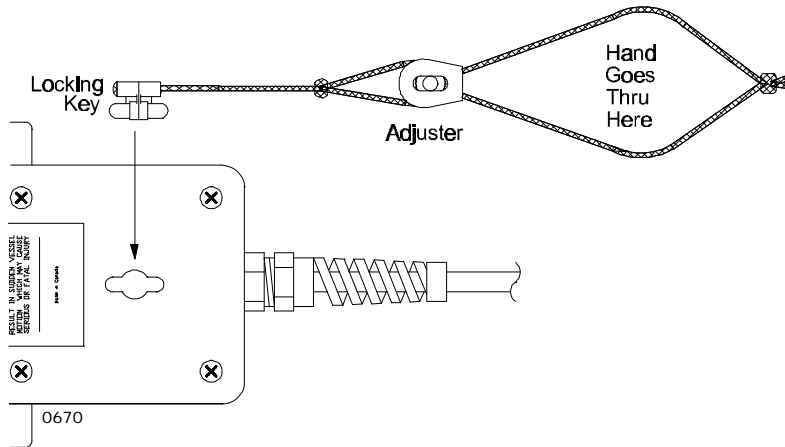

Figure 21 – Safety Lanyard
- If the Hand Held Remote is operated outside of the holding bracket, always wear the safety lanyard (see Figure 21). In the